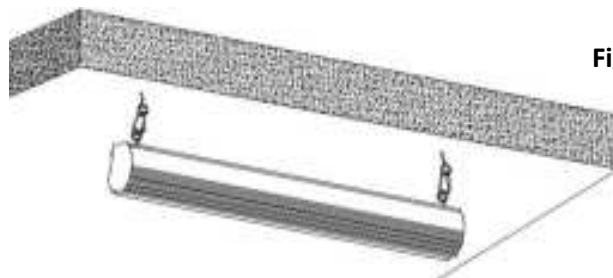

Fig. 3
7. **Figure 3** will show you an optional installation using chains (not included)
3. Wall box controller (Item C, Fig 3): The wall box controller switch is a wall mounted control box with an up/stop/down button. It plugs directly into the screen's RJ50 port.